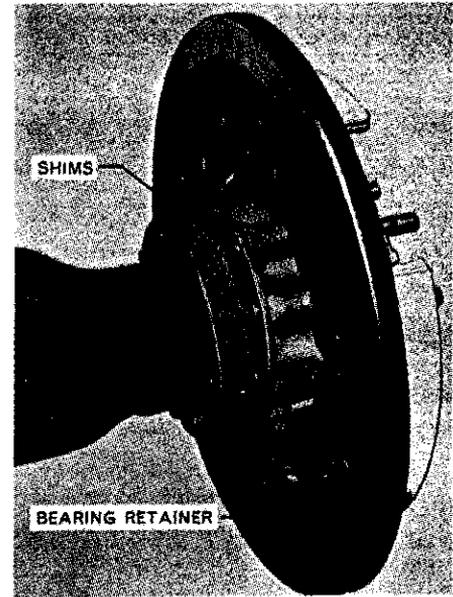

Fig. 319—Axle shaft bearings are adjusted by varying shims located between axle housing and bearing retainer.
**292. OVERHAUL DIFFERENTIAL LOCK.** The differential lock foot pedal pivots on an extended lower hydraulic link shaft. Pedal has renewable bushing (79—Fig. 317), be sure to align grease hole in bushing with hole in pedal. The spring loaded operating rod is renewable only as a complete assembly. The operating lever and fork shaft pivots in renewable bushings in right rear axle housing. To renew the operating shaft (71), bushings (12 and 70), fork (67) and/or pedal pivot shaft (66), remove the right axle housing as follows: Drain oil from differential and hydraulic lift compartments. Disconnect differential lock operating rod from operating lever and remove foot pedal and hydraulic lower link from pivot shaft. Block up under center housing and unbolt and remove right rear wheel and fender, then remove axle assembly from axle housing. Be careful not to lose or damage shims (see Fig. 319) located between bearing retainer axle housing. Then, unbolt and remove axle housing from center housing. Renew shaft bushings, fork and/or pedal pivot shaft as necessary. Procedure is evident from inspection of unit and reference to Fig. 317. The differential lock sliding coupling, spring and coupling adapter can also be inspected and, if necessary, renewed at this time. **Note:** If necessary to renew right differential carrier bearing (30—
**294. BEARING ADJUSTMENT.** The rear axle shafts are carried on one tapered roller bearing at the outer end of each shaft. The bearings are retained in their cups by contact of the inner ends of the two axle shafts in the differential assembly. The recommended axle shaft end play of 0.004-0.012 is obtained by varying the shims installed between the axle housing and axle bearing retainer as shown in Fig. 319.